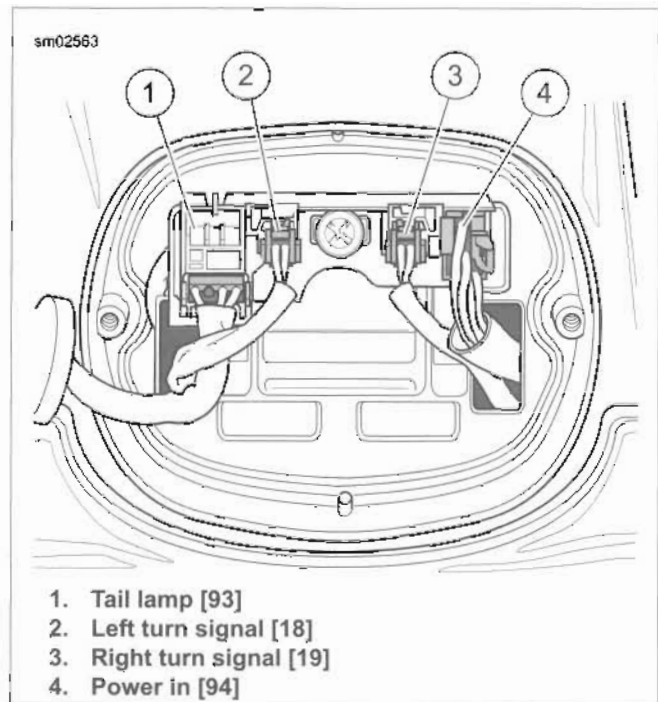

Figure 7-38. Wire Location at Connectors
7. See Figure 7-38. Install connectors to circuit board.